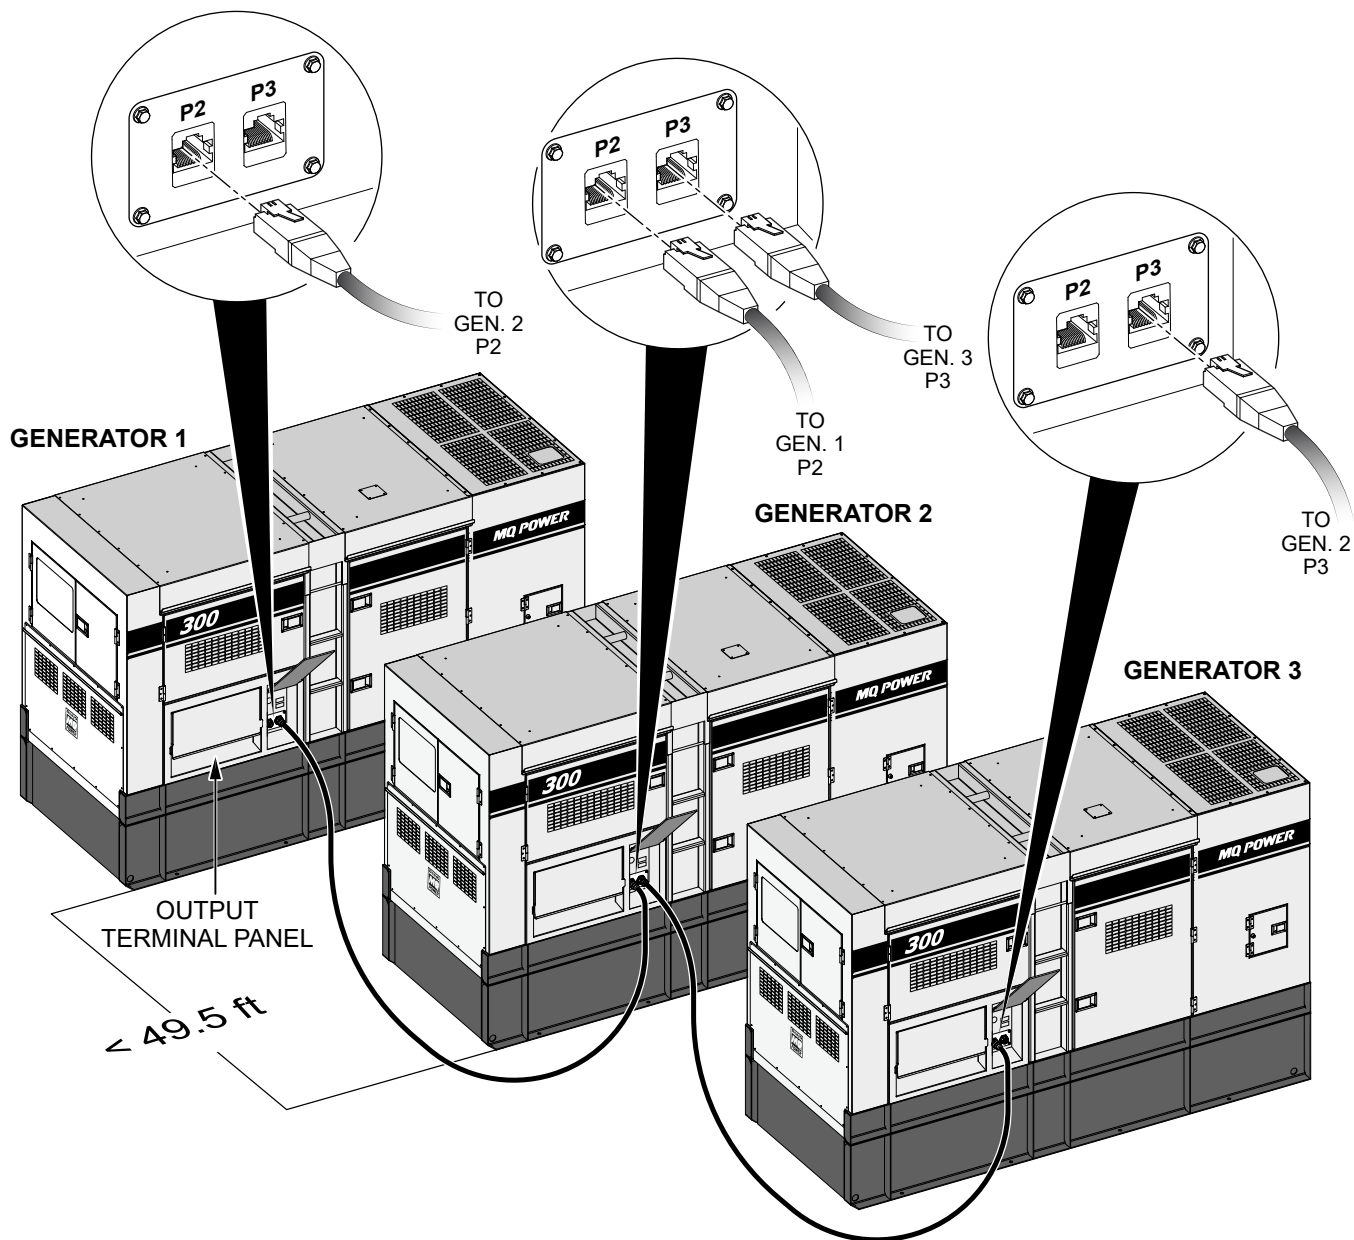

Figure 52. Communication Cable Connections (Parallel Operation)
1. Make sure the spacing between each generator control panel does not exceed **49.5 feet (15.08 m)**. See Figure 52.
2. **On the first generator**, connect one end of the 49.5-foot (15.08 m) RJ45 Ethernet cable to the Ethernet communication port labeled **P2**. See Figure 52.
3. **On the second generator**, connect the other end of the 49.5-foot (15.08 m) RJ45 Ethernet cable to the Ethernet communication port labeled **P2** (Figure 52).
4. If there are more generators to be connected to the system (Figure 52):